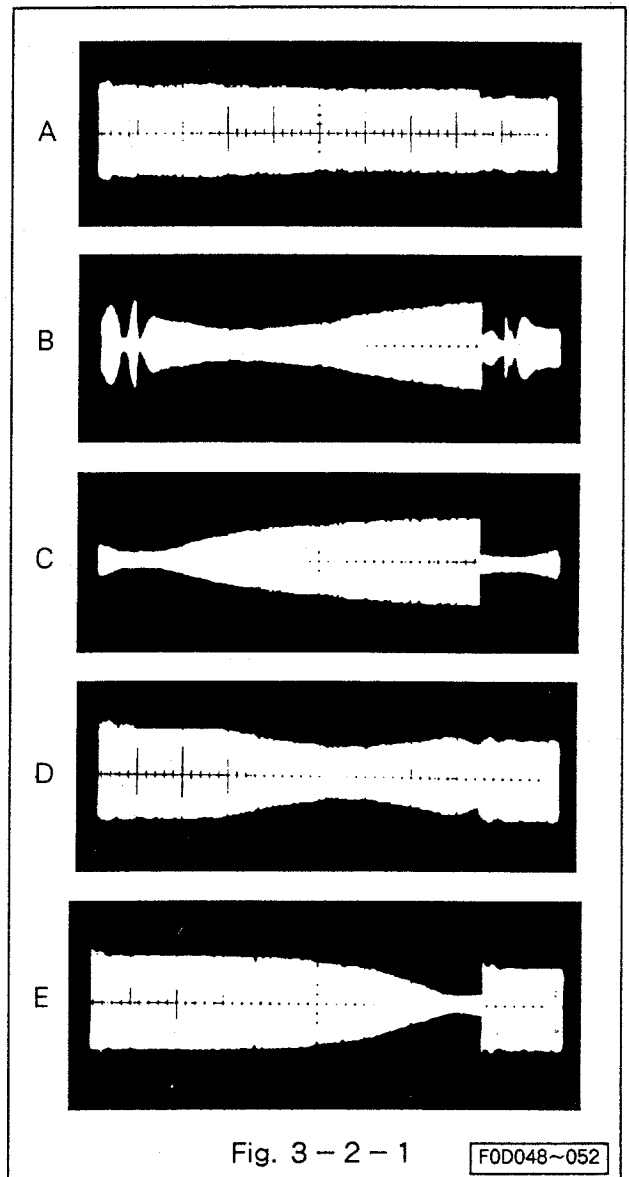

Fig. 3-2-1
3-2-1 Guide Roller Adjustment (Refer to Fig. 3-2-1.)
- Check if the FM waveform is flat like A shown in Fig. 3-2-1.
3-2-2 Adjustment of Supply Guide Roller Height (Refer to Fig. 3-2-1, 3-2-2.)
3-2-3 Adjustment of Takeup Guide Roller Height (Refer to Fig. 3-2-1, 3-2-2.)